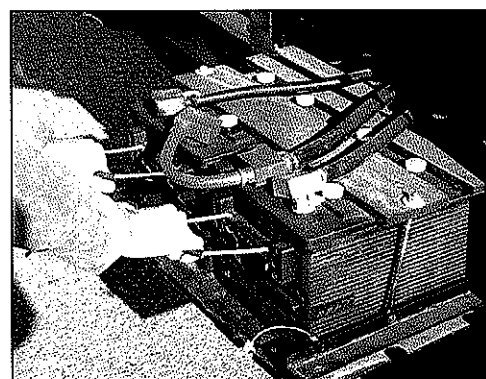

Fig. 3
3. Grasp the grab handles on the outward side of the batteries and pull firmly outward. (*fig. 3*)